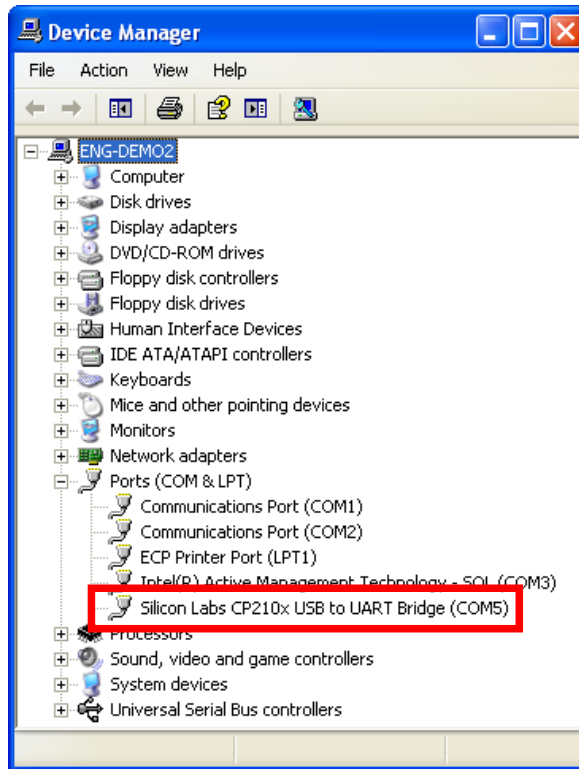

Figure 10 – Screen, *Device Manager* (1 device connected)
- 3) In the 'System Properties' screen, under the 'Hardware' tab, click on 'Device Manager'. Double-click on 'Ports (COM & LPT)'. The screen in Figure 10 will be displayed
- 4) On the list of Ports, one of them should read 'Silicon Labs CP210x USB to UART Bridge (COM#)'. In the example in Figure 10 above, the component is connected to 'COM5'.